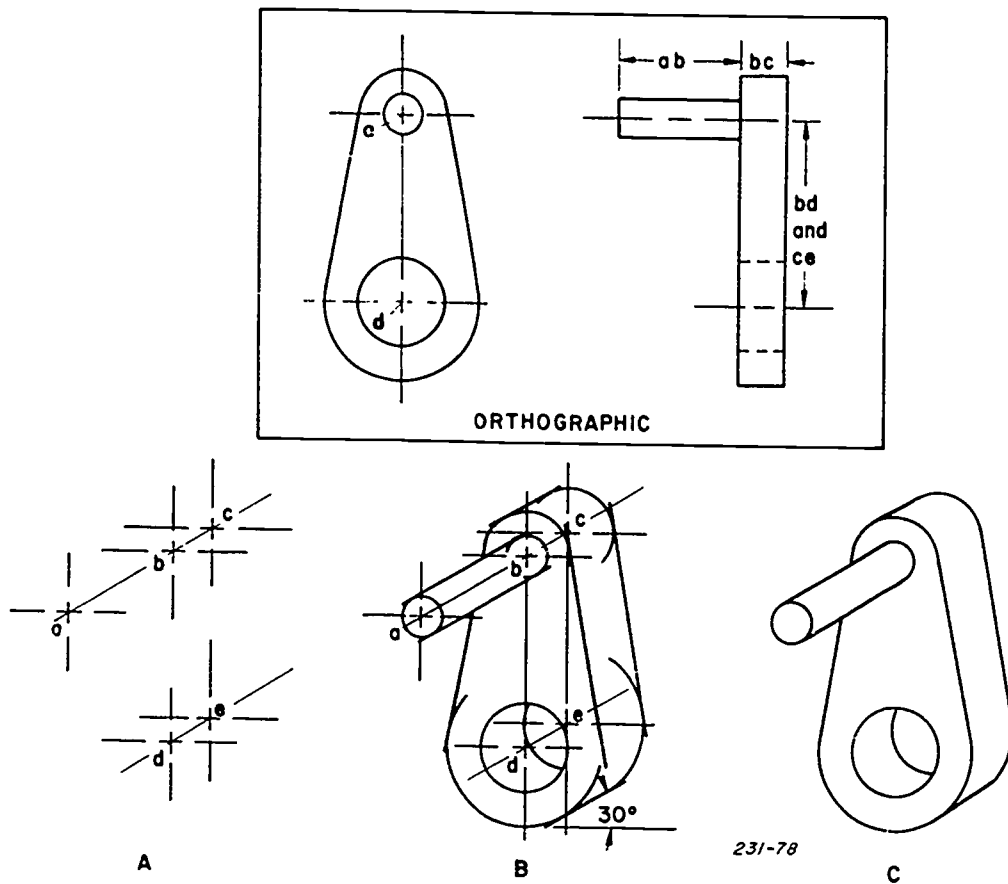
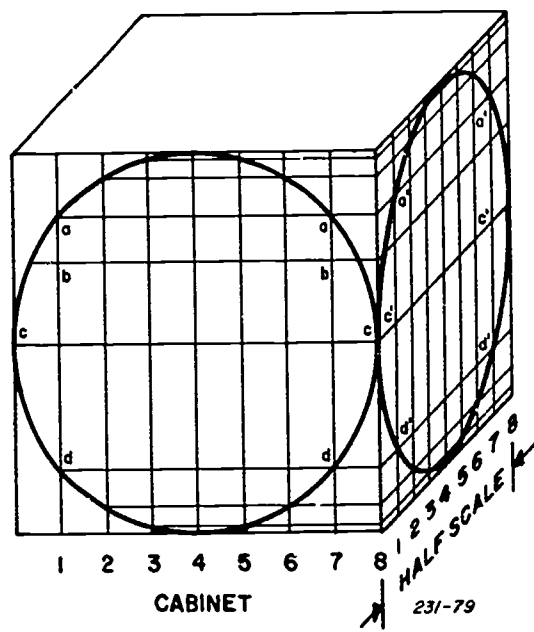

Figure 4-68. Skeleton construction.
Figure 4-69. Foreshortening an ellipse.
Figure 4-68 illustrates the procedure in making an oblique drawing of an object, which is composed of cylindrical shapes, from the orthographic views. Now let's discuss this construction in a logical sequence.
*b.* Part B of figure 4-68 shows the method of constructing on the circular surfaces and the corresponding outlines. The steps are as follows:
(1) Using points  $a$  and  $b$  as centers, draw the two circles to correspond in diameter with the one representing the shaft in the orthographic. The distance  $ab$  between the two centers is the length of the cylindrical shaft of the object.
(2) Using points  $b$  and  $c$  as centers, draw the arcs which represent the rounded top of the object.
(3) With point  $d$  as center, draw the circle with the same diameter as the one in the orthographic. As shown by the side view, this is a circular hole which extends through the object.
(4) Using  $d$  and  $e$  as centers and a radius the same as the orthographic, draw the two arcs which represent the rounded bottom part of the object.
(5) Draw tangent lines between both the top and bottom arcs and the arcs with centers  $a$  and  $b$ , thus completing the contour of the object.
(6) Heavy-in all final lines and erase construction lines, as shown in part C.
**Circles in Oblique.** It is not always possible to place an object so that all its curved surfaces are parallel with the image plane. In such cases, a four-center approximate ellipse may be used to represent circles which are not parallel with the image plane. However, this method can be used only when the sides of the inclosing parallelogram are equal. In a cabinet drawing or in any oblique drawing where the receding axis is foreshortened, the curve must be plotted by coordinate (offset) measurements. The principles used in drawing an ellipse by this method are shown in figure 4-69.
Since the ellipse shown on the receding surface in figure 4-69 represents a circle on the surface of the object, the